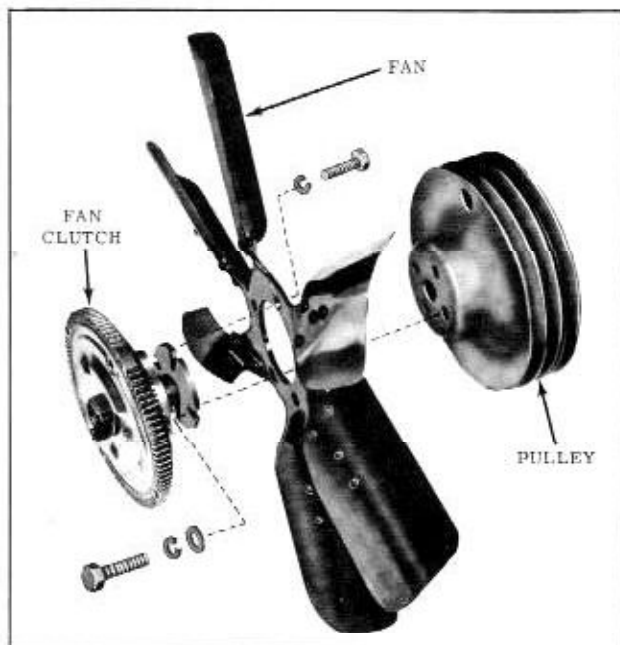

Fig. 8-57 Fan and Clutch Assembly
1. Remove the four fan and clutch to pulley attaching bolts. (Fig. 8-57)